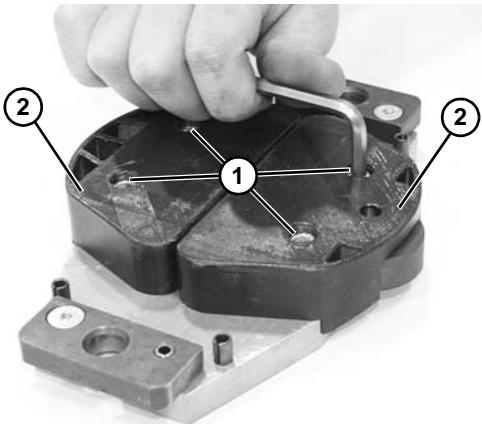

Figure 55
2. Remove four socket head screws (**Figure 55, item 1**) and remove pucks (**Figure 55, item 2**).